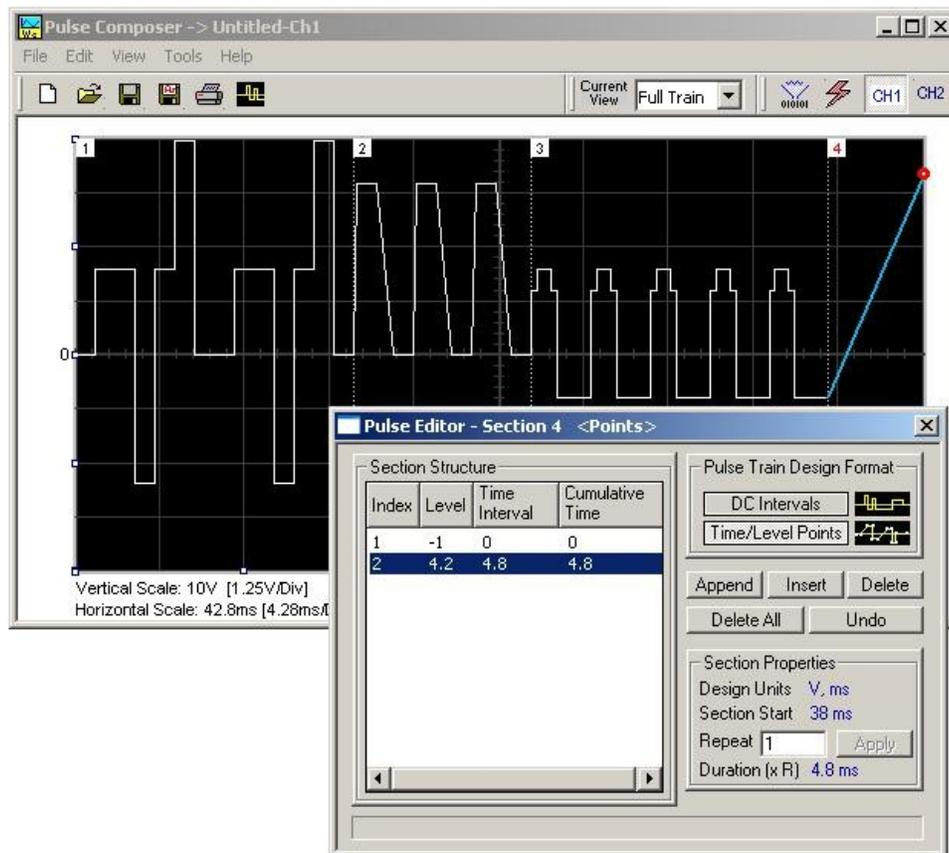

Figure 4-36, Building Section 4 of the Pulse Example
**Pulse Example, Section 4** The third pulse section is complete. We are ready now to start building the fourth section of the pulse as shown in Figure 4-36. Point and click on the Edit command and select the Append Section option. A new section number will appear and will show empty next to the section identifier.
Before you start entering values to this section, note that there is only one linear transition required for this section that will start from the last point of the previous section and will connect to the start point of the next section. Therefore, select the Time/Level Points option in the Pulse Train Design Format. You are now ready to start programming values. Type the section entries as shown in Figure 4-36.
**Pulse Example, Section 5** The fourth pulse section is complete. We are ready now to start building the fifth and final section of the pulse as shown in Figure 4-36. Point and click on the Edit command and select the Append Section option. A new section number will appear and will show empty next to the section identifier.